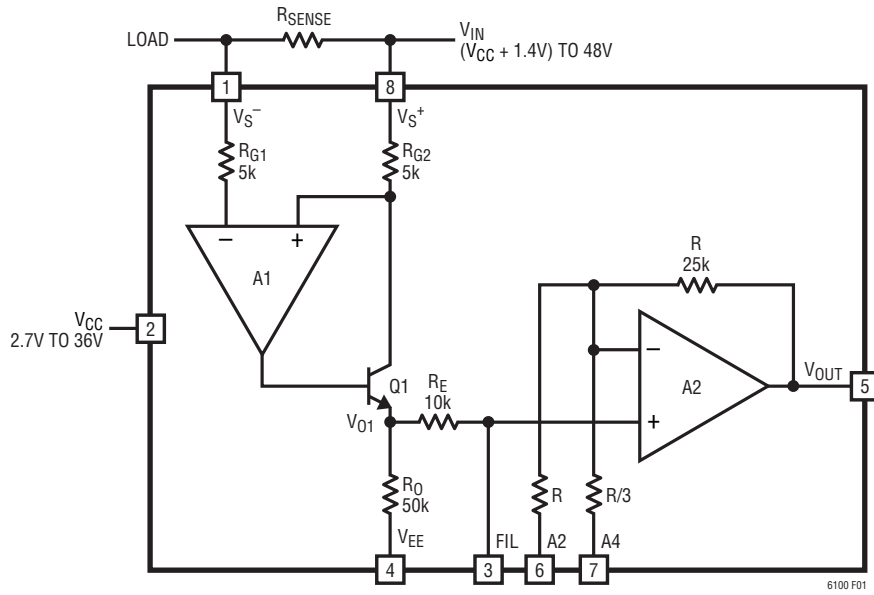

Figure 1. Functional Diagram
**$V_S^+$  (Pin 8):** Positive Sense Input Terminal. Connecting a supply to  $V_S^+$  and a load to  $V_S^-$  will allow the LT6100 to monitor the current through  $R_{SENSE}$ , refer to Figure 1.  $V_S^+$  is connected to an internal gain setting resistor  $R_{G2} = 5k$ .  $V_S^+$  remains functional for voltages up to 48V.
The LT6100 high side current sense amplifier (Figure 1) provides accurate unidirectional monitoring of current through a user-selected sense resistor. The LT6100 features a fully specified 4.1V to 48V input common mode range. A high PSRR  $V_{CC}$  supply (2.7V to 36V) powers the current sense amplifier and the internal op amp circuitry. The input sense voltage is level shifted from the positive sense power supply to the ground reference and amplified by a user-selected gain to the output. The buffered output voltage is directly proportional to the current flowing through the sense resistor.
### Theory of Operation (Refer to Figure 1)